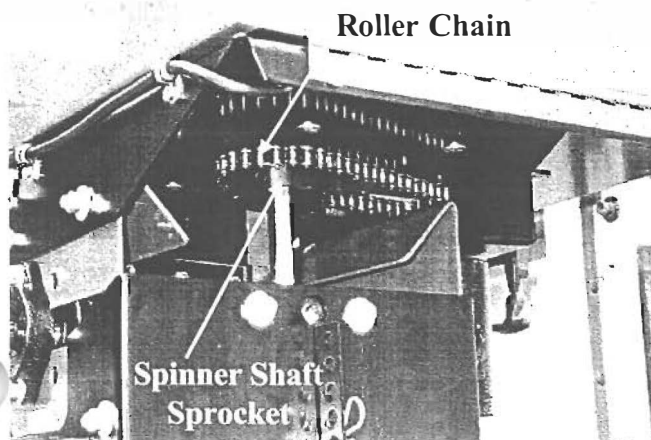

Figure 10
3. Install the roller chain between the spinner shaft sprocket and the gear case sprocket with the master link. See Figure 10.